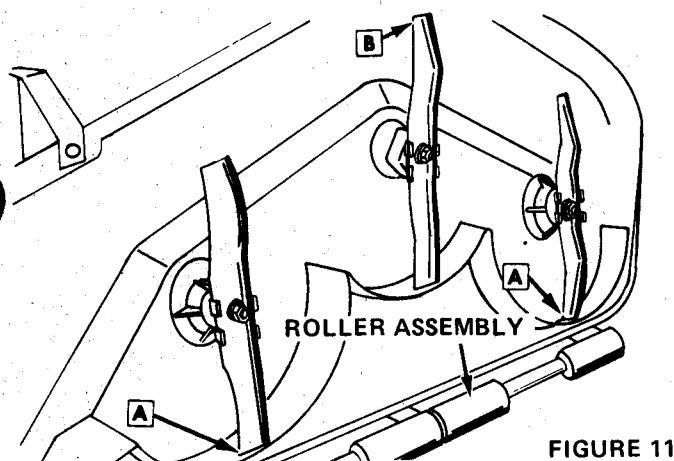

FIGURE 11
7. Rotate the blades until they are perpendicular to the roller assembly as shown in Figure 11.
8. Measure distance from floor to both outboard blade tips at Points A, Figure 11.